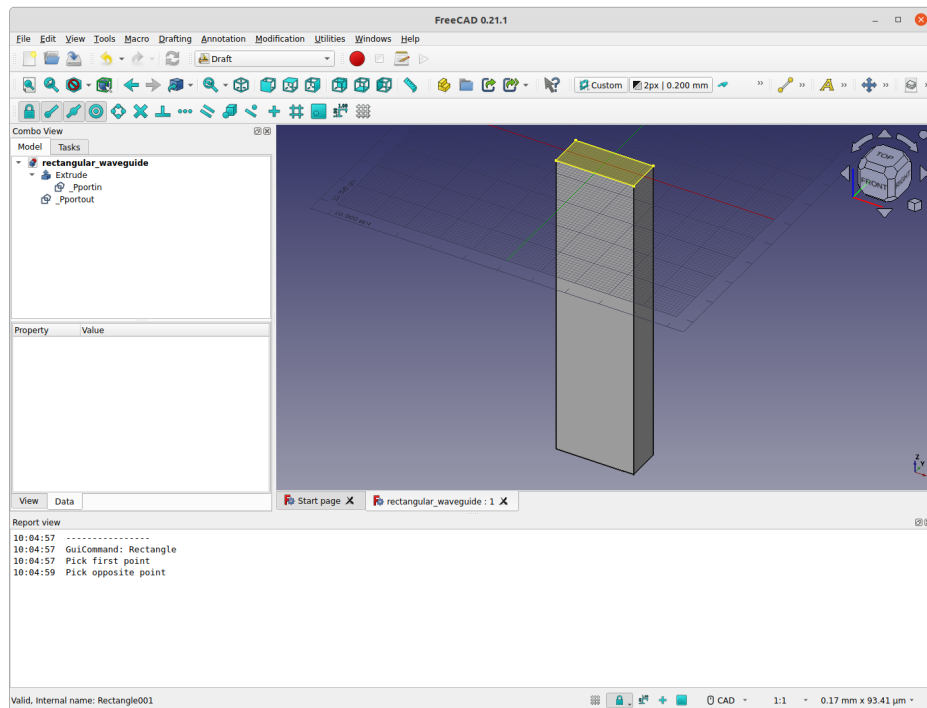

Figure 5: Hovering over the port object `_Pportout` in the Combo View window highlights the output port.
- Hover the cursor over the `_Pportout` in the **Combo View** window and the rectangle will highlight as shown in Fig. 5.